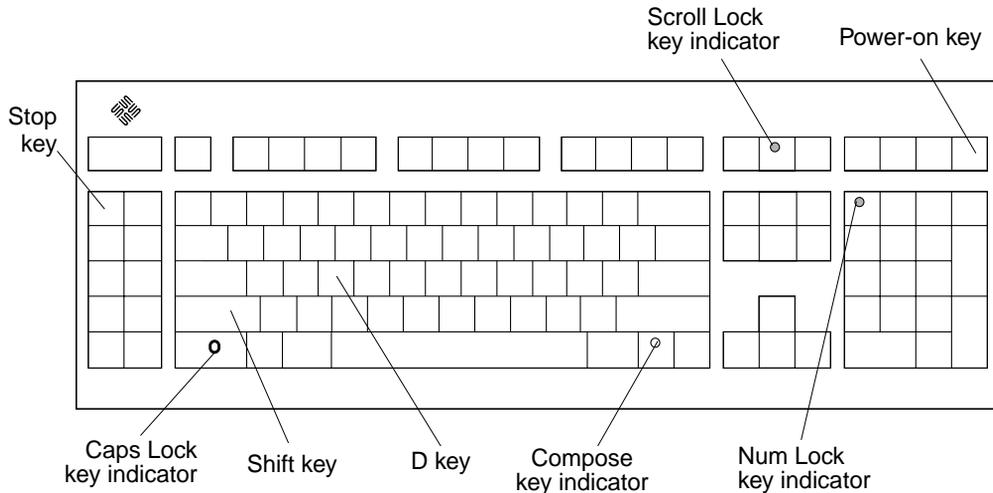

FIGURE 3-1 Sun Type-5 Keyboard
2. **At the Sun type-5 keyboard, power cycle the system by simultaneously pressing the shift key and the power-on key (FIGURE 3-1). After a few seconds, press the power-on key.**